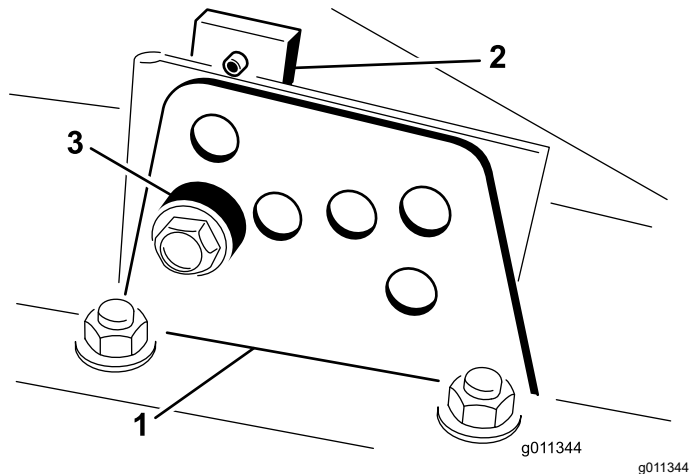

Figure 17
2. Loosen the bolt securing each height-of-cut bracket to the height-of-cut plate (front and each side) (Figure 17).
4. While supporting the chamber, remove the spacer (Figure 17).